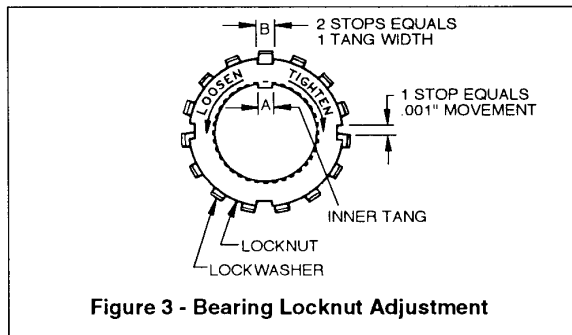

Figure 3 - Bearing Locknut Adjustment
Overtightening the locknut can cause bearing failure or a broken lockwasher tang (see “A” on Figure 3). A loose locknut will allow the shaft to shift, causing excessive bearing wear, and possible damage to the pump magnet.
- Back off the nut the width of one lockwasher tang “B” or two stops (see Figure 3). Secure the locknut by bending the closest aligned lockwasher tang into the locknut slot. Ensure that the shaft turns freely when rotated by hand.
- Press the grease seal (104) into the bearing cover with the flat side inward, so that the lips of the seal will face towards the housing when the bearing cover is installed.
- Install a new bearing cover gasket (26) and the bearing cover (27A) to the housing. Install and tighten the four bearing cover capscrews (28) torquing to 2 lbs ft (2.7NM).